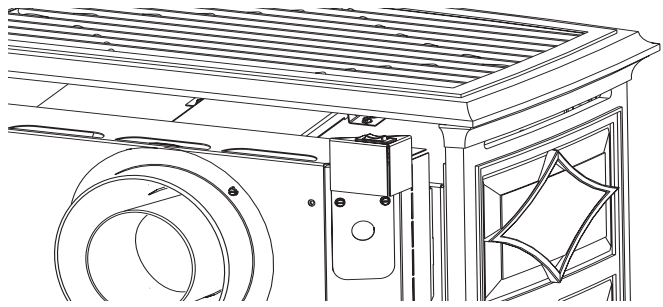

Figure 32. Burner Control Switch location.
1. Once the pilot is lit, burner operation is controlled by the rocker switch located at the left rear corner of the stove. Use the T-STAT position for the optional thermostat or remote control functions. See fig. 32.